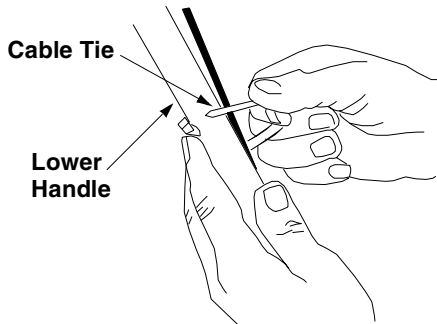

Figure 6
- Fasten the cable to the lower handle with the two cable ties found on the lower handle. Pull the cable ties tight and trim off the excess. See Figure 6.